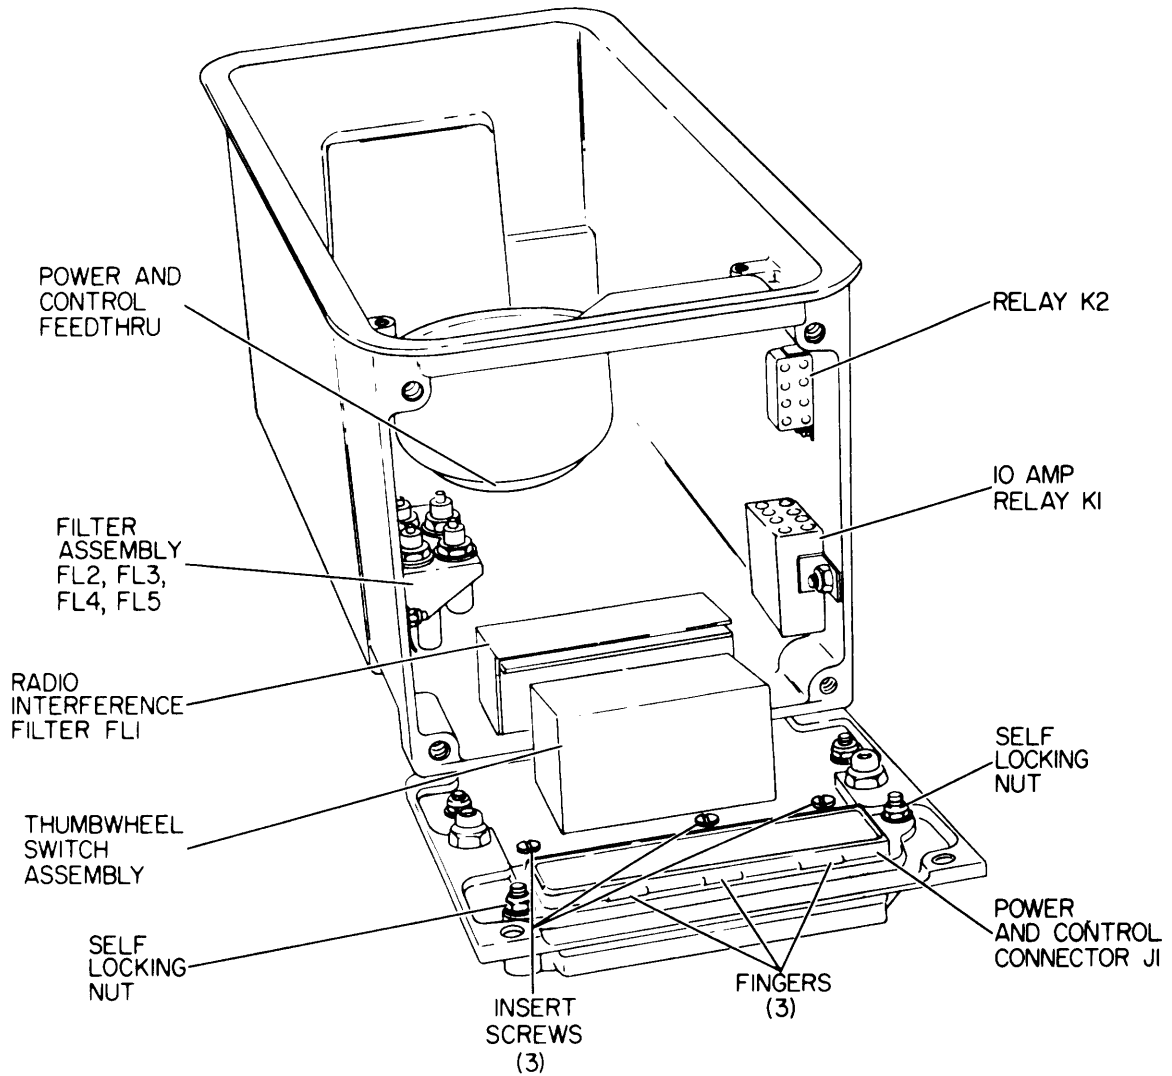

Figure 4-21. Faceplate Removed
l. Unsolder and tag all leads from power and control connector J1 (figure 4-21).
n. Unsolder and tag all leads from thumbwheel switch assembly (figure 4-21).
o. Unsolder and tag all leads from elapsed time indicator (figure 4-21).
p. Remove mounting screws for filter assembly FL2, FL3, FL4, and FL5 (figure 4-21).
s. Remove mounting screws for relay K1 (figure 4-21).
v. Remove mounting screws for relay K2 (figure 4-21).
x. Remove mounting screws for FL1 (figure 4-21).
aa. Unscrew power and control feedthrough (figure 4-21).
ab. Power and Control Connector J1 (figure 4-21).
1. Remove three screws securing insert on rear of connector J1 (figure 4-21).
until three fingers (figure 4-21) are free from holding slot on connector shell.
4. Remove two self-locking nuts (figure 4-21) .